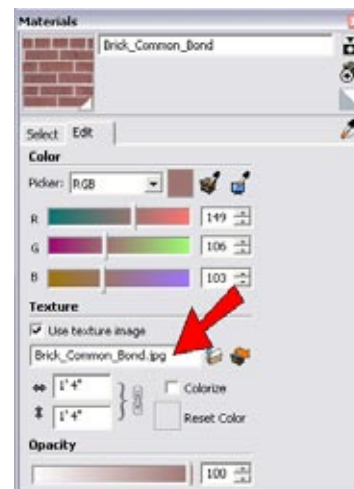

Figure 8-27
3. Double-click the brick material, which opens the editing parameters. The name of the image file is listed here (Figure 8-27).